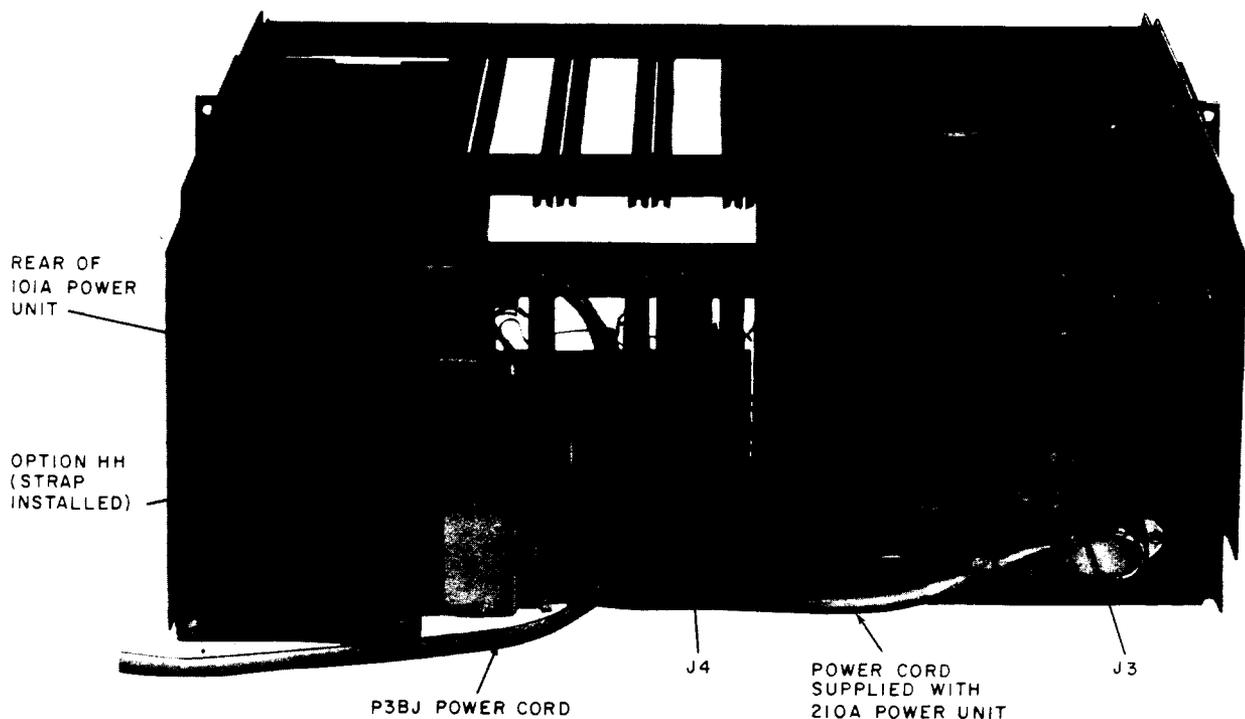

Fig. 1—Rear View of 41B2 Data Mounting
- 3 Verify that terminals E16 and E17 on the 101A power unit are connected (Option HH) per Fig. 1.
- 8 Gain access to the rear of the data mounting and install the 101A power unit in its correct location. Refer to Fig. 1 for correct location of the power unit.
- 13 Connect the 18-inch power cord supplied with the 210A power unit between the 101A and the 210A power units as shown in Fig. 1.
- 17 Connect the P3BJ power cable to the twist-lock ac outlet located on the side of the 101A power unit as shown in Fig. 1, then connect the other end to a 117-volt 60-Hz ac outlet.